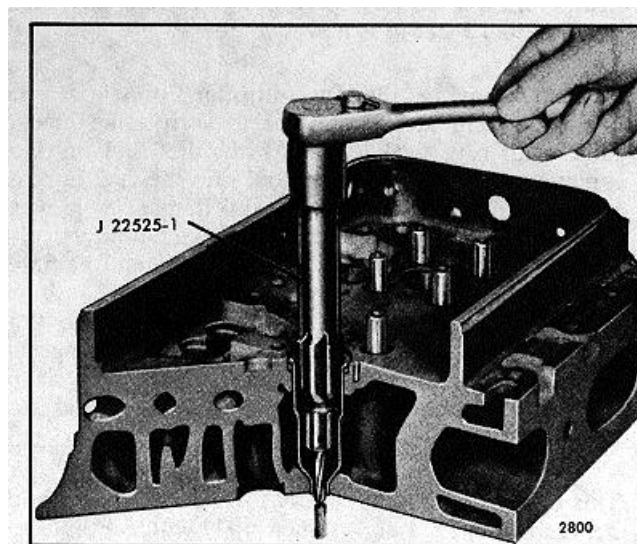
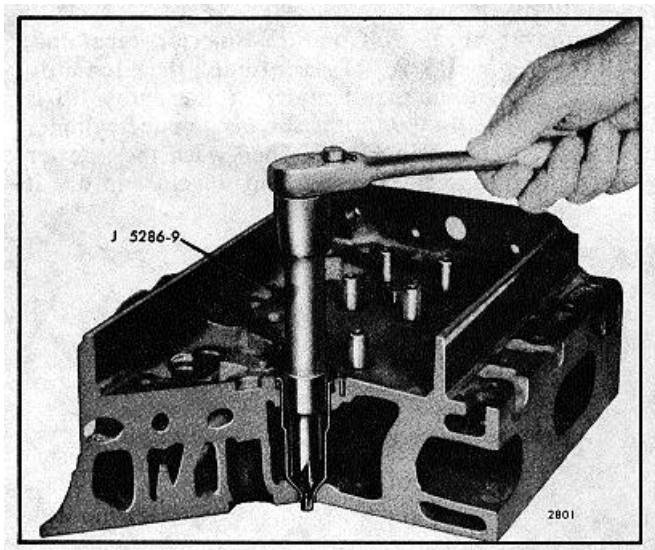

Fig. 4 - Reaming Injector Tube for Injector Body Nut and Spray Tip
Fig. 5 - Reaming Injector Tube for Injector Nut
After an injector tube has been installed in a cylinder head, it must be finished in three operations: First, *hand reamed*, as shown in Fig. 4, to receive the injector body nut and spray tip; second, *spot-faced* to remove excess stock at the lower end of the injector tube; and third, *hand reamed*, as shown in Fig. 5, to provide a good seating surface for the bevel or the lower end of the injector nut. Reaming must be done carefully and without undue force or speed so as to avoid cutting through the thin wall of the injector tube.
- b. Turn the reamer in a clockwise direction (withdrawing the reamer frequently for removal of chips) until the lower shoulder of the reamer contacts the injector tube (Fig. 4). Clean out all of the chips.